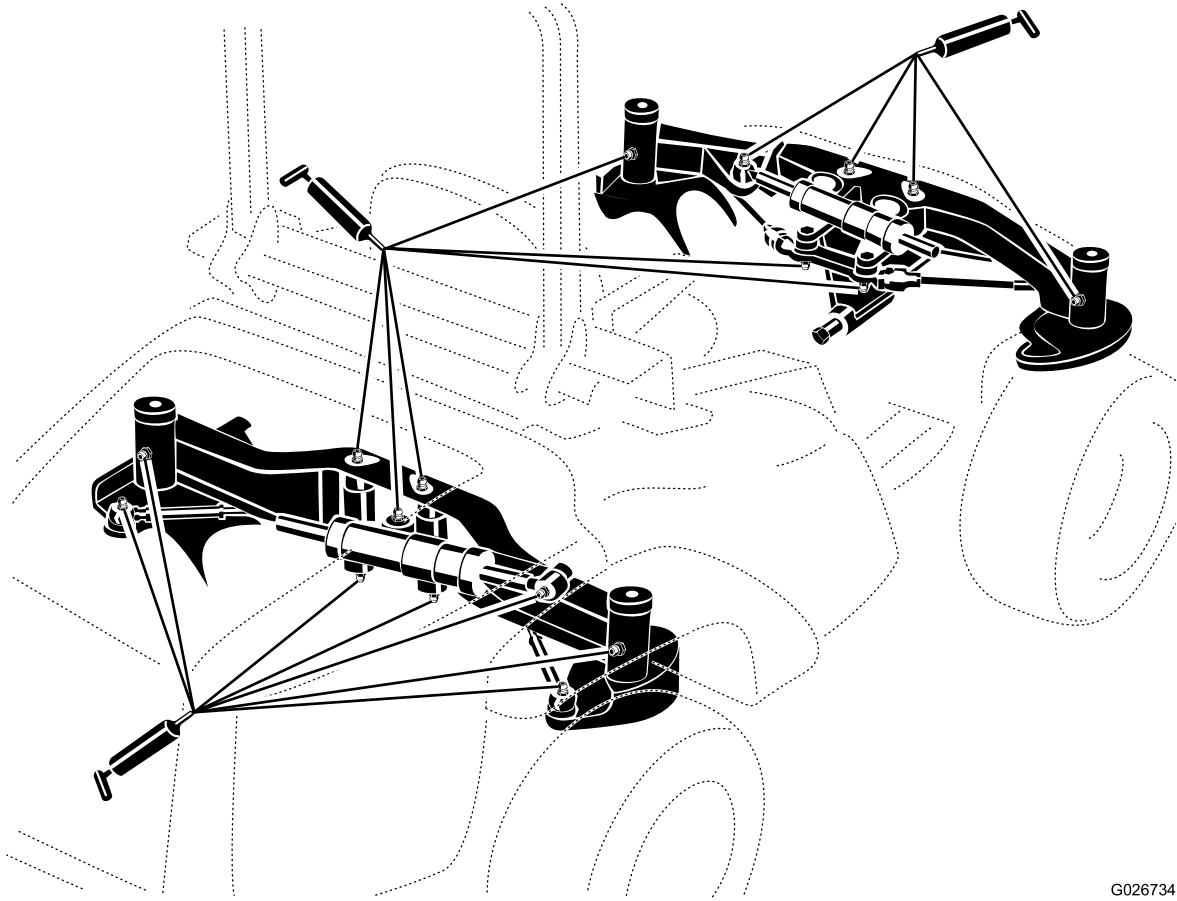

Figure 66
1. Wipe the grease fittings clean so that foreign matter cannot be forced into the bearing or bushing (Figure 66).
migration through both the upper and lower king-pin bushings. You should see grease purging out of both the top and the bottom of the axle casting/bushing assembly areas of all 4 kingpin assemblies (Figure 66).